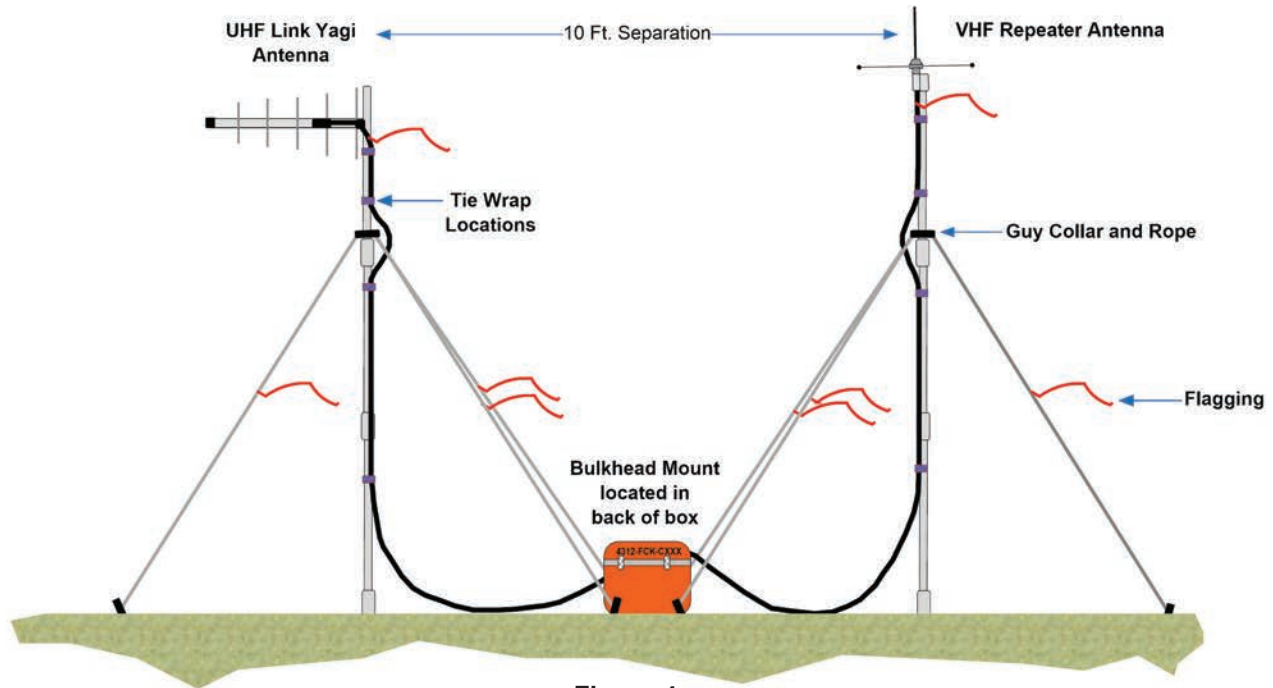

Figure 4:
1. **Antenna Installation** (See Figure 4)
2. **Coaxial Cable** (See Figure 4)